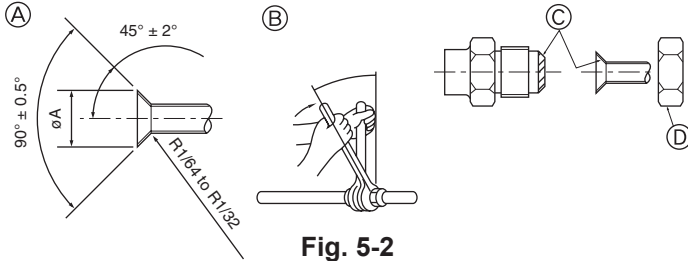

Fig. 5-2
5.2. Connecting pipes (Fig. 5-2)